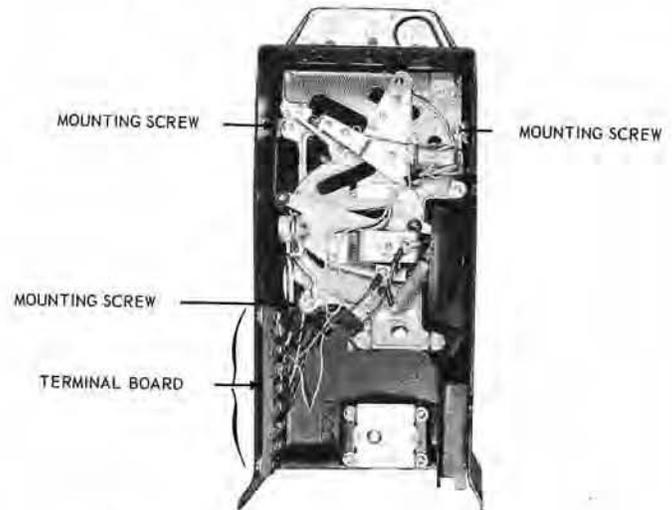

Figure 1. Coin Gage Chute.
(1) Remove the three pan head machine screws holding the coin chute to the upper housing (see Figure 1).
(2) Disconnect the wires between the coin chute and the upper housing terminal board (see Figure 1).